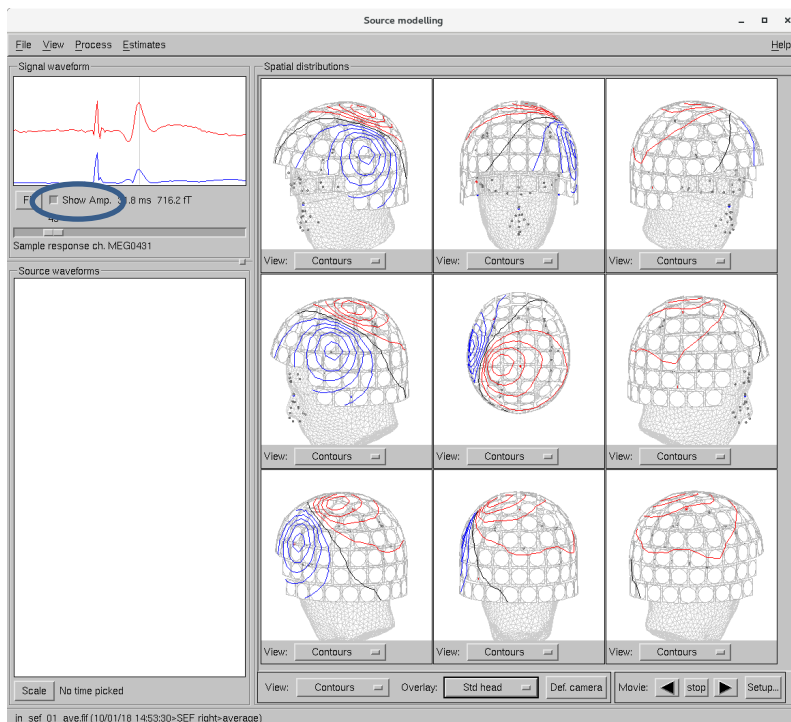

Figure 32. *Xfit* user interface main display shows nine views of MEG contours, here overlaid with the standard head surface and isotrak points.
- *Xfit* user interface is shown in Figure 32; see the *Source Modelling Software User's Guide* for the details of the controls and display areas.
- Enable **Show amp.** to display the blue RMS amplitude curve (encircled in Figure 32).